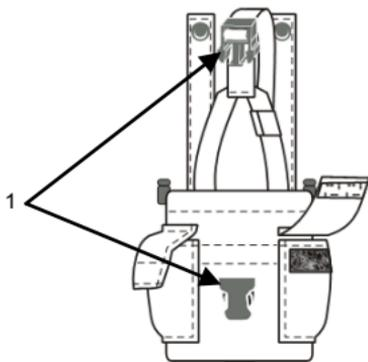

Figure 1. Canteen/General Purpose Pouch.
- Secure the plastic male and female buckle fasteners (Figure 1, Item 1) on front of the pouch.